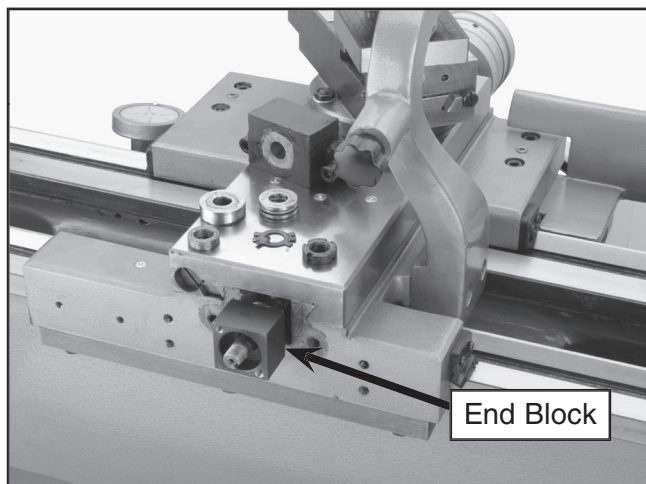

Figure 4. End block assembly.
9. Assemble the end block and bearing (**Figure 4**). The pocket for the bearing and the threaded holes must be facing outwards when sliding the end block onto the lead screw.